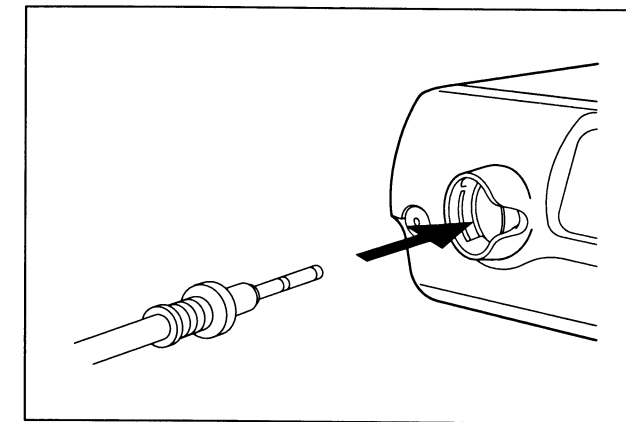

Figure 4.2
2. Insert the light guide connector into the output socket on the front panel of the light source until it stops (see Figure 4.2).